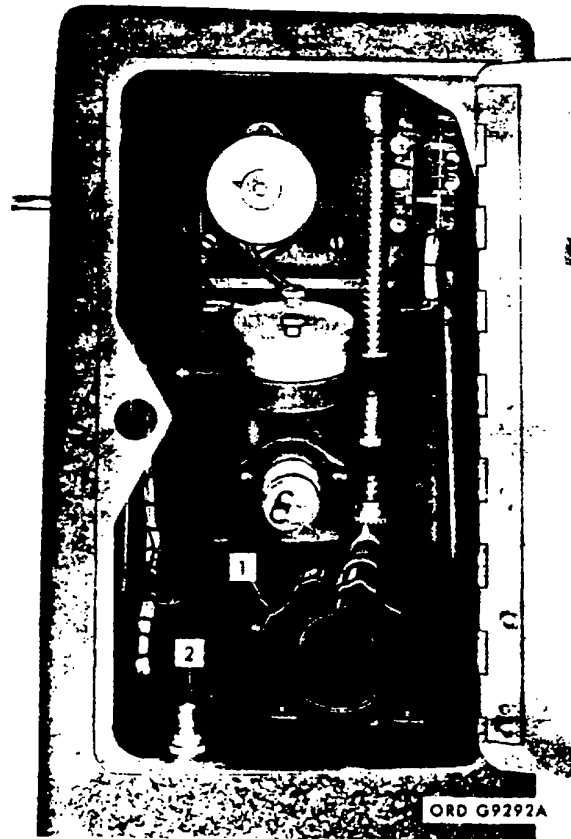

Figure 7. DX-44 projection unit-upper rear door - controls and indicators.
a. The controls located behind the upper-rear door of the DX-44 projection unit are explained in table 3 and illustrated in figure 7.
**Table 3. Projection Unit, DX-44, Upper-Rear Door--Controls and Indicators (fig. 7)**